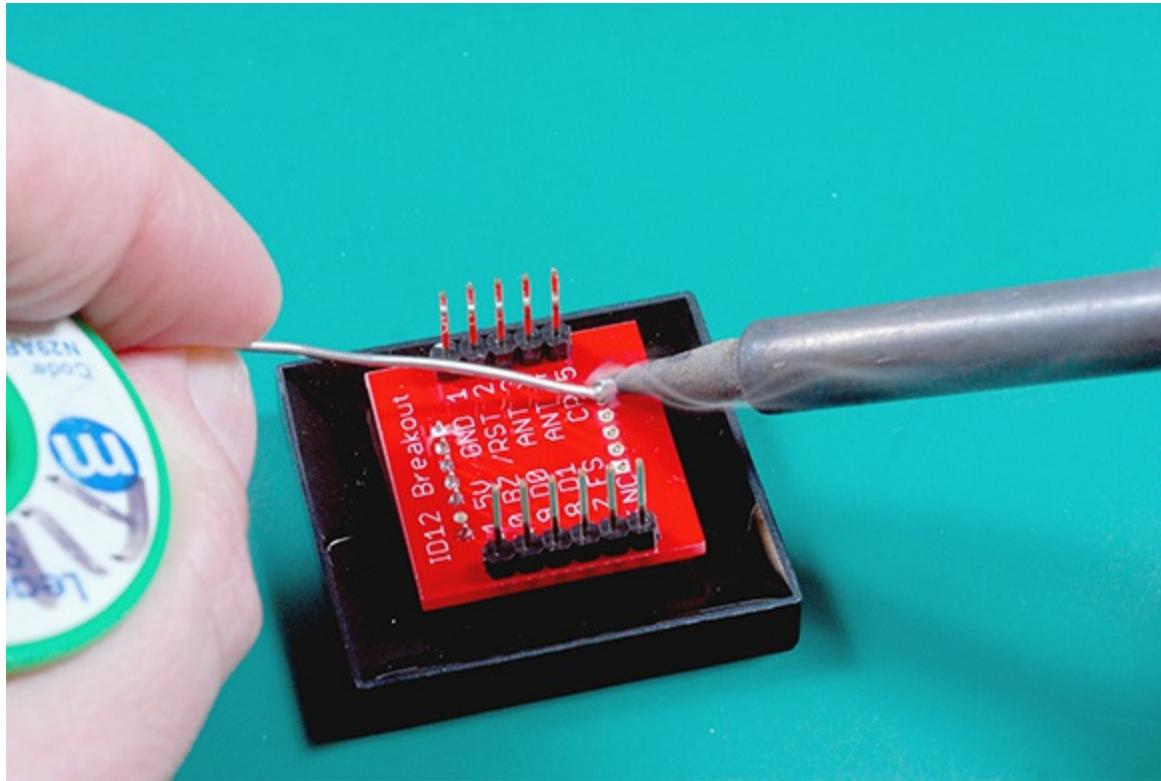

Figure 9-7: Soldering your pins on the RFID reader.
You should work carefully, but quickly when soldering any integrated circuit (IC). The pins are rated to withstand a certain amount of heat during soldering, but lingering too long on one could damage your reader. If you're working slowly, it's a good idea to take a break for a few moments between pins so the heat doesn't build up during the process. Don't rush. Carefully solder the breakout board to your reader, as shown in Figure 9-7. The RFID reader IC isn't going anywhere!